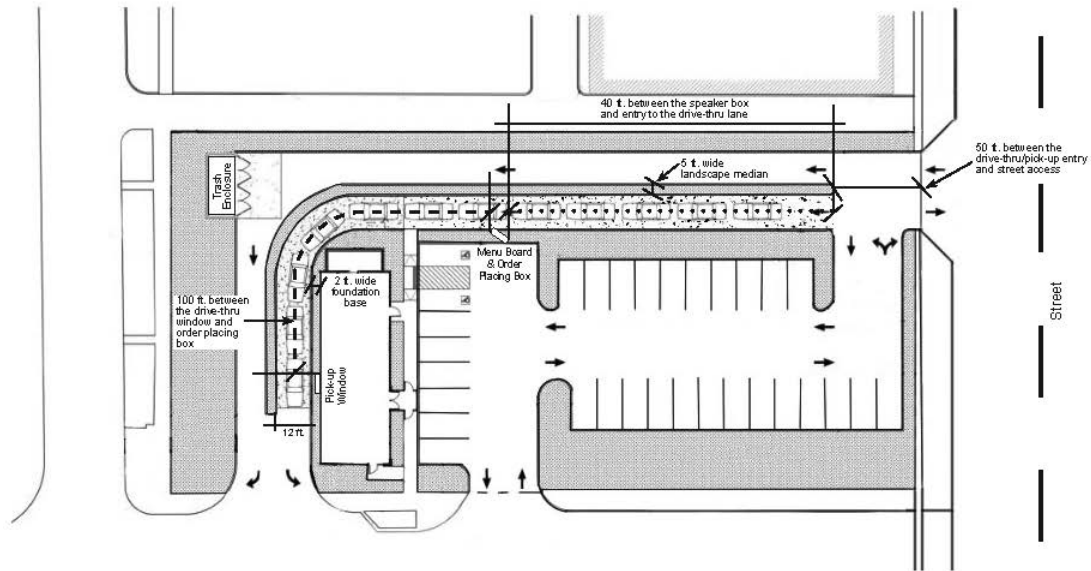

FIGURE 11-31-18.A DRIVE-THRU AND PICK-UP FACILITIES
~~A.~~ **1. A DRIVE-THRU LANE, PICK-UP LANE, OR DRIVE LANE SERVING A DRIVE-UP ATM/TELLER WINDOW MUST BE Physically separated FROM NON-drive-thru OR NON-PICK-UP AREAS traffic-lane from the non-drive-thru traffic area with BY a five (5) foot (5') wide raised landscape median. SEE FIGURE 11-31-18.A.**
~~B.~~ **2. A MINIMUM Provide TWO (2)-foot WIDE foundation base MUST BE PROVIDED along ANY exterior building WALL where THAT IS adjacent to drive-thru LANE, PICK-UP lane, OR DRIVE LANE SERVING A DRIVE-UP ATM/TELLER WINDOW. SEE FIGURE 11-31-18.A.**
2. ADDITIONAL DRIVE-THRU FACILITY REQUIREMENTS. IN ADDITION TO THE STACKING REQUIREMENT IN SUBSECTION (1) ABOVE, DRIVE-THRU FACILITIES MUST CONFORM TO THE FOLLOWING STACKING REQUIREMENTS:
- A. A MINIMUM 100-FOOT-LONG STACKING DISTANCE MUST BE PROVIDED BETWEEN THE DRIVE-THRU WINDOW AND ORDER-PLACING SPEAKER, WITH AT LEAST 40-FOOT-LONG STACKING DISTANCE BETWEEN ORDER-PLACING SPEAKER AND ENTRY TO THE DRIVE-THRU LANE. DISTANCE MEASURED AT CENTERLINE OF DRIVE-THRU LANE. SEE FIGURE 11-31-18.A.
- 3. ADDITIONAL PICK-UP WINDOW FACILITY REQUIREMENTS. IN ADDITION TO THE STACKING REQUIREMENTS IN SUBSECTION (1) ABOVE, PICK-UP WINDOW FACILITIES MUST CONFORM TO THE FOLLOWING STACKING REQUIREMENTS: A MINIMUM 100-FOOT-LONG STACKING DISTANCE MUST BE PROVIDED BETWEEN THE PICK-UP WINDOW AND THE ENTRANCE OF THE PICK-UP LANE. DISTANCE MEASURED FROM THE LEADING EDGE OF THE PICK-UP WINDOW ALONG THE CENTERLINE OF THE PICK-UP LANE TO THE ENTRANCE OF THE PICK-UP LANE.**
~~FIGURE 11-31-18 DRIVE THRU FACILITIES~~